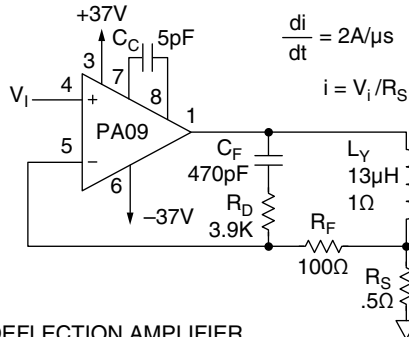

FIGURE 1. PA09 AS DEFLECTION AMPLIFIER
**DEFLECTION AMPLIFIER (FIGURE 1)**
The deflection amplifier circuit of Figure 1 achieves arbitrary beam positioning for a fast heads-up display. Maximum transition times are 4μs while delivering 2A pk currents to the 13mH coil. The key to this circuit is the sense resistor ( $R_s$ ) which converts yoke current to voltage for op amp feedback. This negative feedback forces the coil current to stay exactly proportional to the control voltage. The network consisting of  $R_D$ ,  $R_F$  and  $C_F$  serves to shift from a current feedback via  $R_s$  to a direct voltage feedback at high frequencies. This removes the extra phase shift caused by the inductor thus preventing oscillation. See Application Note 5 for details of this and other precision magnetic deflection circuits.